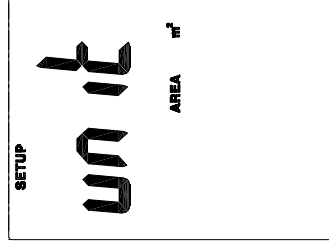

Fig.2
1. When the thermometer is in Setup mode, press  or  to scroll to the area unit setup option (refer Fig.2).
5. Slide the sensor cover to the down position, let the air velocity sensor to contact the air, refer Fig.2. Extend the telescope probe to the convenient length, refer Fig.4.